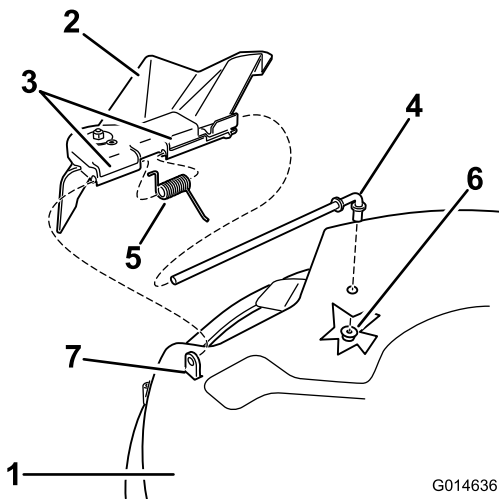

Figure 58
2. Remove the nut (3/8 inch) from the rod under the mower (Figure 58).
3. Slide the rod out of the short stand-off, spring, and grass deflector (Figure 58). Remove the damaged or worn grass deflector.
4. Replace the grass deflector (Figure 58).
6. Place the spring on the rod, with end wires down, and between the grass deflector brackets. Slide rod through second grass deflector bracket (Figure 58).
7. Insert rod at front of grass deflector into short stand-off on deck. Secure rear end of rod into the mower with a nut (3/8 inch) (Figure 58).
1. Locate items shown in Figure 58.